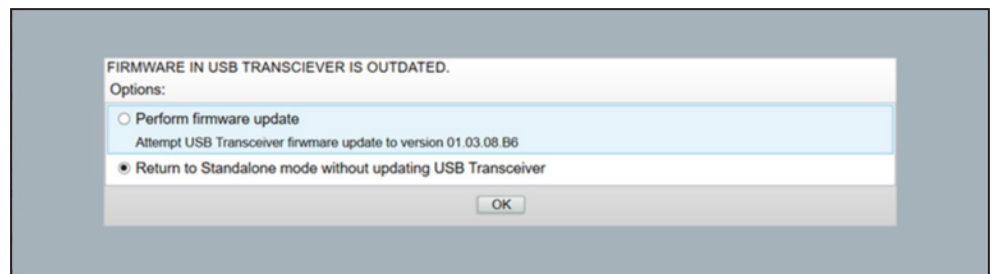

Figure 59. The Firmware in USB Transceiver is Outdated selection menu.
- STEP 3.** If the firmware can be updated, the following selection menu will appear. See Figure 59. (If the firmware is up to date, a dialog box will appear. See Figure 62 on page 45.)